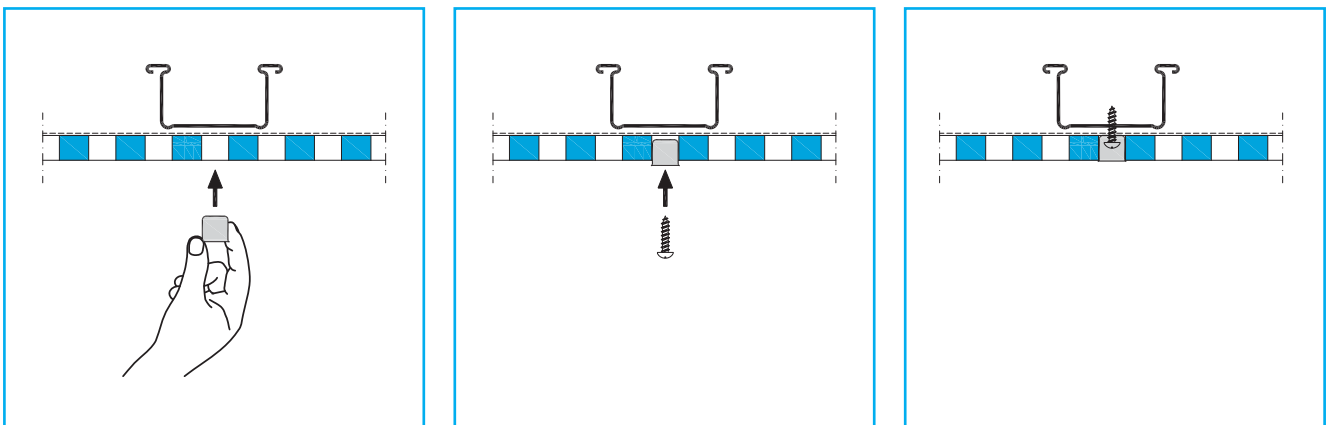

FIGURE 7 Cap Installation
- Use Cap Screws for easy installation in Stratopanel with 8, 10 and 12mm diameter round perforations [Figure 7].